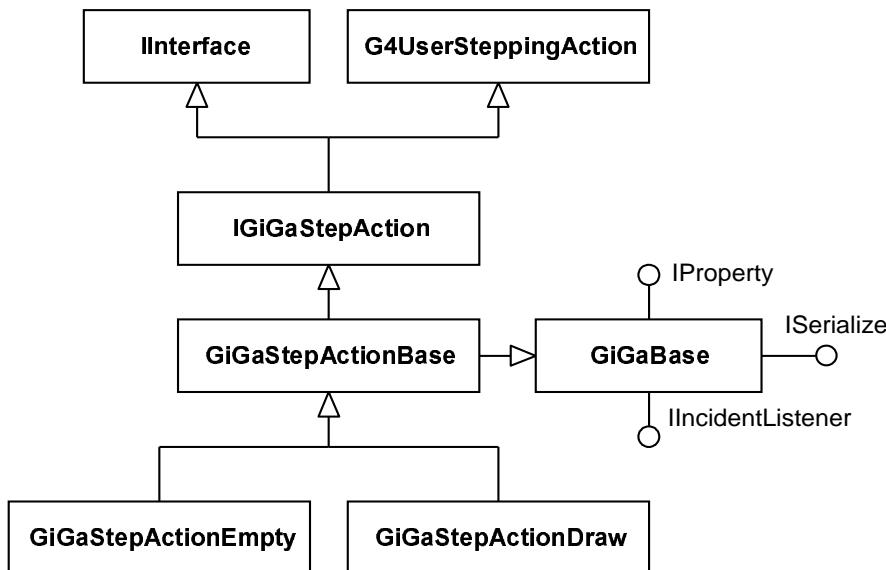

Figure 4.7: The class diagram for **GiGaStepAction** classes
**GiGA** provides the possibility of instantiation of such objects using abstract factories approach. To get this behaviour the intermediate abstract interface **IGiGaStepAction** is defined by merging **G4UserSteppingAction** class with **IInterface** interface. Then one could reuse the standard approach of abstract factories to instantiate such objects. The simplified class diagrams are shown on figure 4.7.